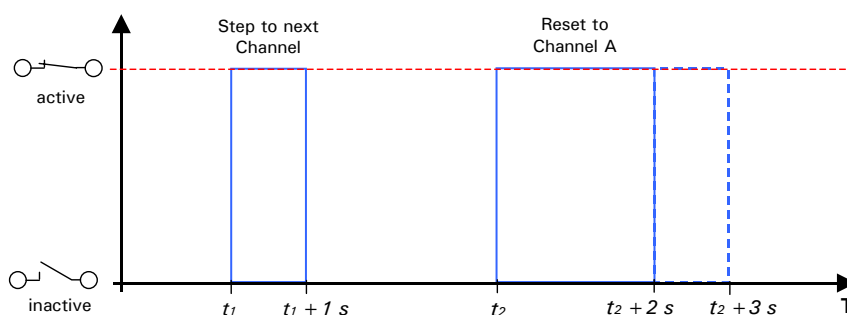

FIGURE 2-8 Timing Diagram of the SSV Input
**SSV** – this pin is used to select the position of the SSV. An active input signal shorter than 1.5 seconds will switch the valve to the next solvent channel (from A to B, B to C, ... and finally from D back to A). Additionally, the SSV can be reset to solvent channel A by applying an active signal for longer than 1.5 seconds. FIGURE 2-8 shows the timing diagram. The selected solvent channel is indicated by one of the four LEDs on the upper front panel (FIGURE 1-2).